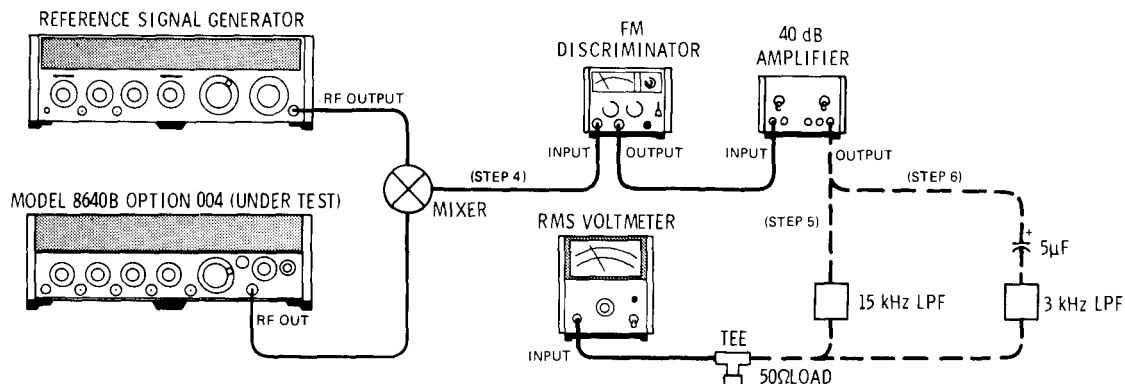

Figure 4-9. Residual FM Test Setup
1. Connect equipment as shown in Figure 4-9 after setting test Signal Generator's controls as follows: